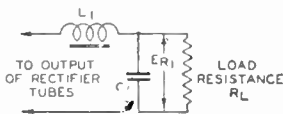

Fig. 48—Curves for choice of filter values for (1) the first section of a double-section filter, or (2) a single-section filter.
#### SINGLE-SECTION FILTER (FIG. 48)
**Procedure:** ERMS is equal to  $3180 \times 1.11$ , or 3535 volts (see Summary of Rectifier Circuit Conditions, page 30). R1 is equal to  $3180/0.5$  ampere, or 6360 ohms. From Fig. 48, R1=6360 lies below curve ERMS=3535 (as shown for the 866-A/866). Hence, any combination of inductance and capacitance along the curve ER1=5% and to the left of the curve ERMS=3535 will satisfy the requirements. A suitable combination is a filter section employing a 25-henry choke and a 1- $\mu$ f condenser.